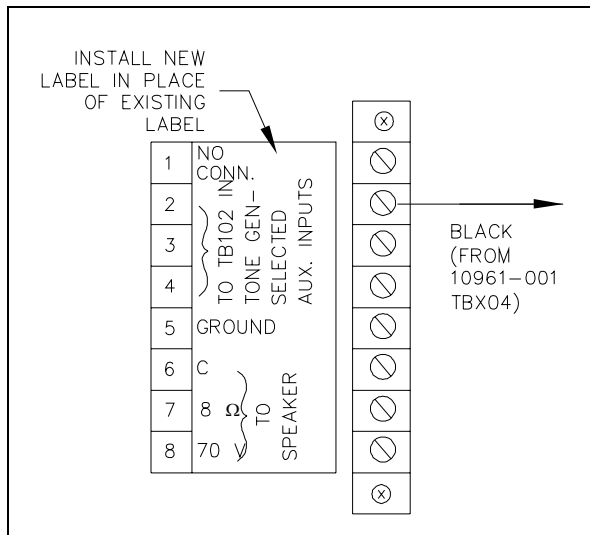
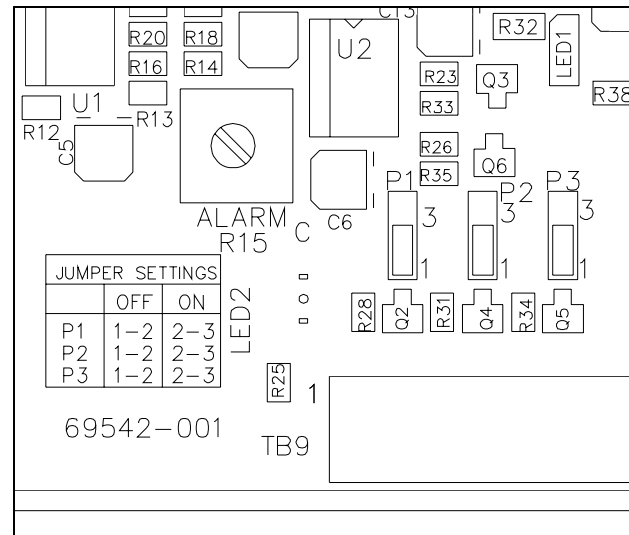

Figure 2. Wiring at Card Rack
Figure 3. Model 69542-001 AMI Centra-Page Interface - jumper section
4. Open the Centra-Page cabinet to access the rear of the card rack. Attach the new terminal block label as noted in Figure 2.
6. Refer to Figure 2 and Figure 3. The Model 10961-001 AMI Centra-Page Interface is equipped with a Crew's Quarters activation output (TBX04 position 9 - the black wire). Connect the black wire from the 10961-001 TBX04 to the card rack terminal block position 2. Jumpers P1, P2 and P3 on the 69452-001 Interface PCBA are used to control which of the three tones will be broadcast to the crew's quarters. The jumper in position 1 and 2 make the tone non-active. The jumper in position 2 and 3 make the tone active. One or all the jumpers can be active. For example, to broadcast tones 1 and 2 only to the crew's quarters, put P1 and P2 in position 2 and 3 and allow P3 to remain in position 1 and 2.